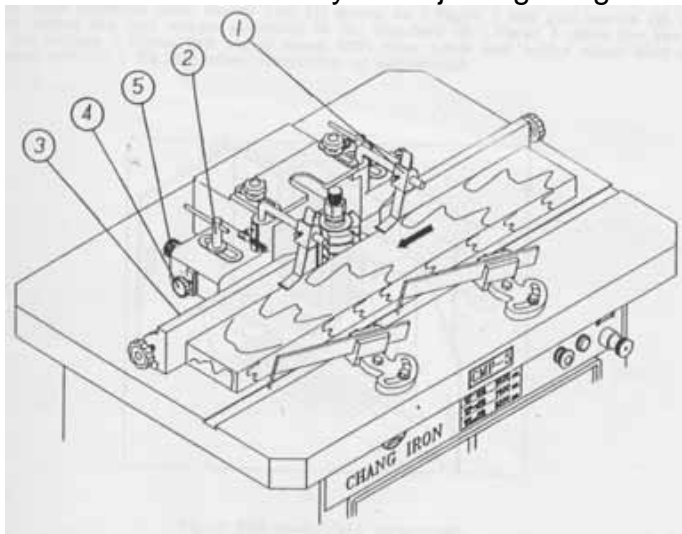

Fig. 5 Guide Fence Adjusting Base
Loosen the pressure adjusting bolt (1) to adjust the hold-down block with a proper pressure and then lock the bolt tightly. (Fig.5)
Loosen the fixed handle (2) (Fig.5) and move the fence body to a proper position and then lock the handle (2).
1. Loosen the fixed handle (2) (Fig. 5) and move the fence body to a proper position and then lock the handle (2).
2. Loosen the two screw bolts (3) and move the fence plate (NOTE: do not touch with cutter) to a proper position and then tighten the two bolts (3) with wrench.
3. Loosen the handle (4) according to the cutting size required, adjust micro adjusting knob (5) and then lock the handle (4).